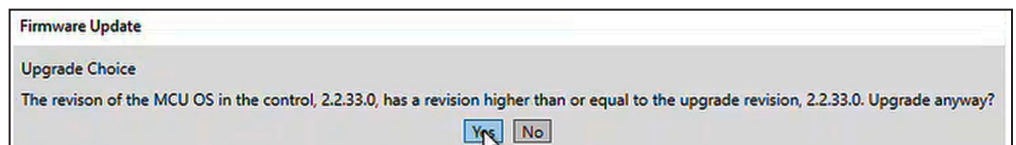

Figure 45. The Firmware Update dialog box for the SDA-4540R2 control.
STEP 16. When any of the software components installed in the control have the same or later version number as the versions being downloaded, a message similar to that shown in the Upgrade Choice dialog box will appear. S&C recommends clicking on the **Yes** button unless instructed otherwise by an S&C representative. See Figure 45.